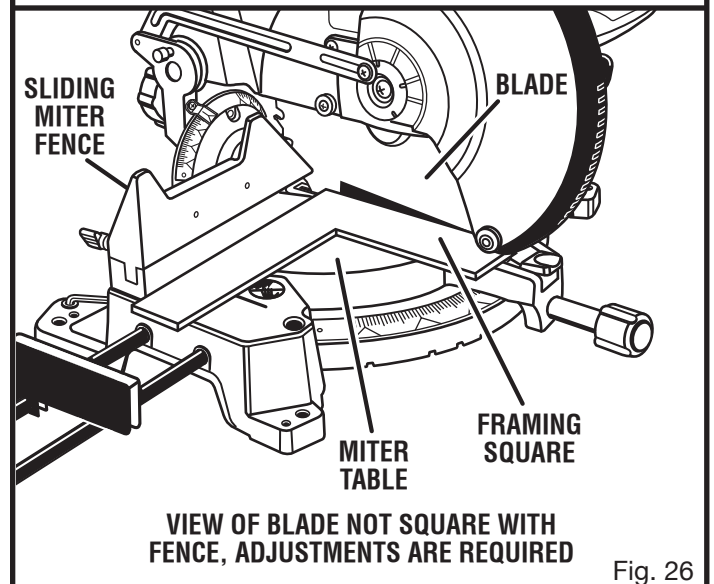

Fig. 26
- If the front or back edge of the saw blade angles away from the square as shown in figures 26 - 27, adjustments are needed.